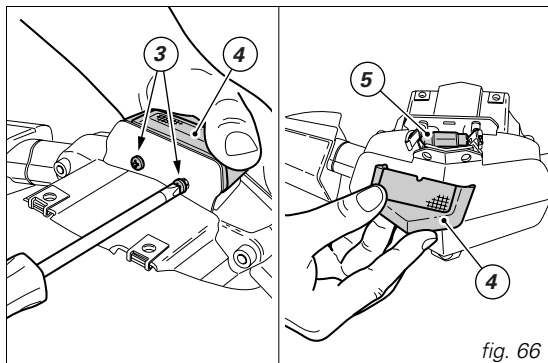

fig. 66
Unscrew the two self-tapping screws (3) securing the shell (4) and number plate lens. Remove the shell and lens and change the number plate bulb (5) (fig. 66).